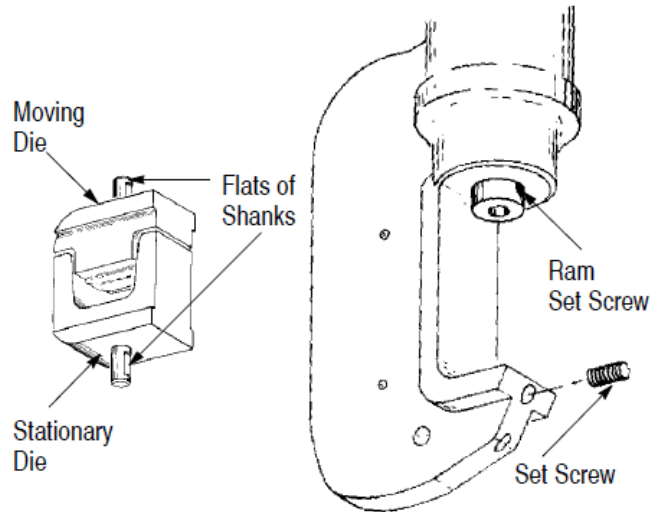

Figure 3
3. DIE INSTALLATION AND REMOVAL (FIGURE 3)